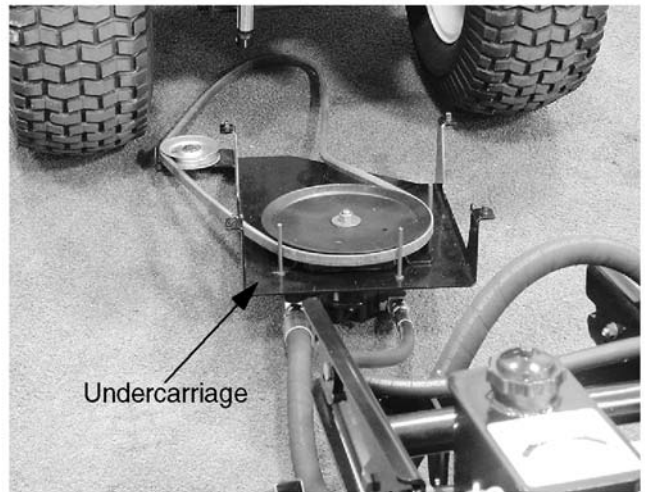

Figure 8-95.
14. Push the tractor clear of the undercarriage. See Figure 8-95.